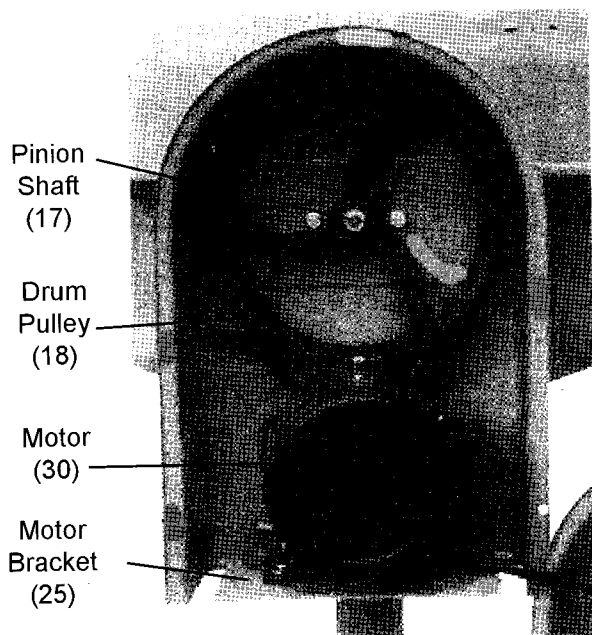

Figure 9
22. Clean the Pinion Shaft of all plastic protective material and other debris. Also clean out any debris from the Motor Pulley's (24) hub.
23. Smear a few drops of lubricating oil on the Pinion Shaft and Squarely push the Drum Pulley (18) onto the Shaft so that the groove in the Pulley engages the Square Key (47). The Pulley should be flush with the step on the Pinion Shaft. See Figure 9.